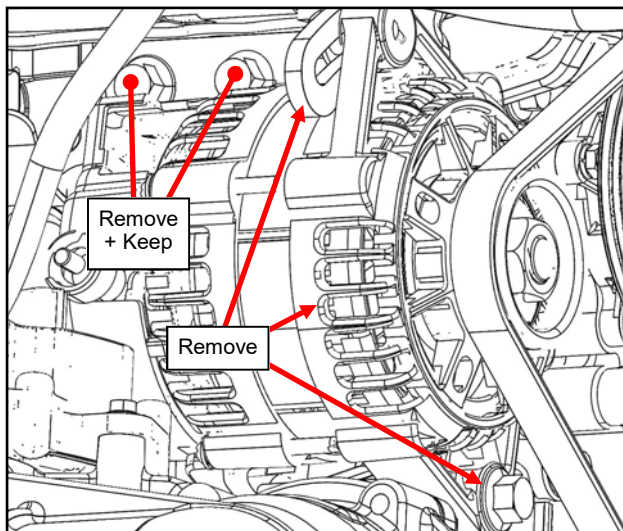

Fig. 2.14 (Remove Alternator)
- 2.14 Remove factory alternator, alternator bracket and mounting hardware per fig. 2.14. Make sure to keep upper mount screws.